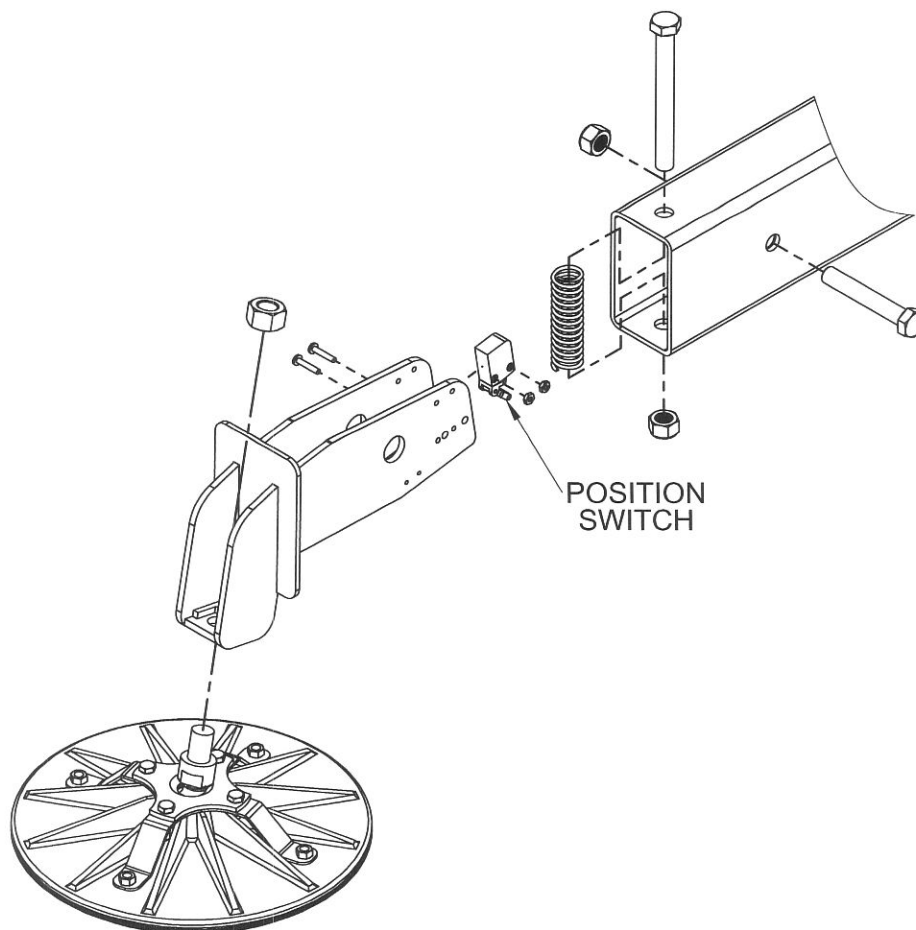

Figure 4-2. Outrigger Position Switch
- If the **LED** is lit before the footpad makes contact with the ground or if the **LED** remains unlit after the weight is transferred to the outrigger, the position switch or wiring is faulty. Refer to Figure 4-2